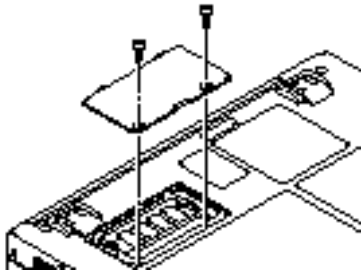

Figure 4-12 Opening the Memory Upgrade Compartment
4. Remove the screws at the front of the memory upgrade module compartment. (See *Figure 4-12*.)
5. Remove the cover by tilting the front edge up and then pulling forward until the tabs on the cover are free. (See *Figure 4-12*.)